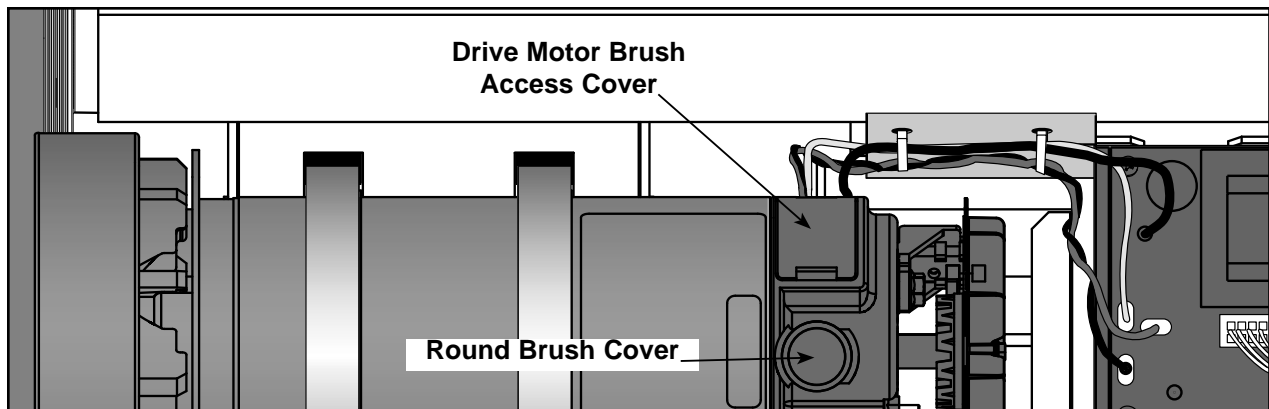

Figure 15
- A. Squeeze each of the two rectangular brush covers to remove it from the motor. See Figure 15.
- B. Lift off the round brush cover. See Figure 15. If necessary carefully pry the cover up using a flat head screwdriver.